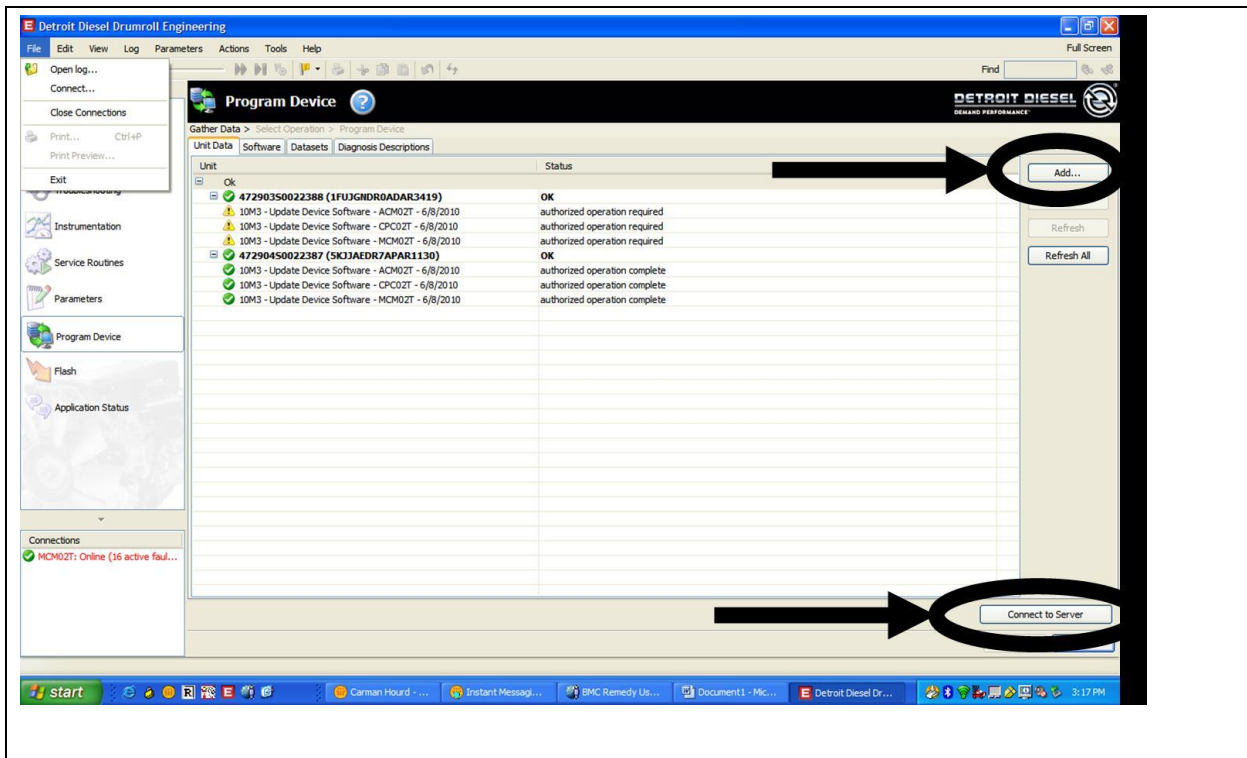

Fig. 4, Adding Engine Serial Number and Connecting to Server
10. Select the “Add” button in the upper right corner of the DiagnosticLink® screen and enter the engine serial number. Then click the “Connect to Server” button in the bottom right corner of the DiagnosticLink® screen. See Figure 4.